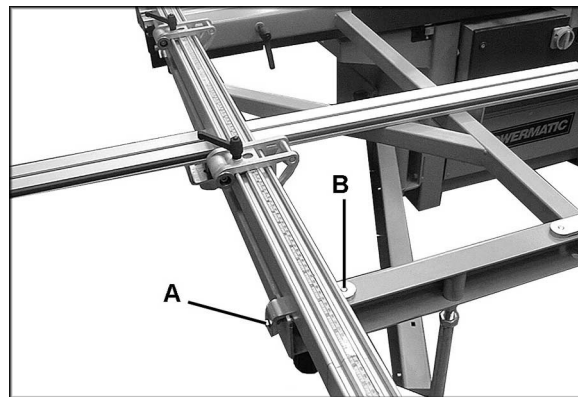

Figure 25
1. Loosen the two bolts (A, Figure 25).
2. Turn bolt (B, Figure 25) to open or close the angle of the fence in relation to the saw blade.
3. Re-tighten bolts (A, Figure 25).